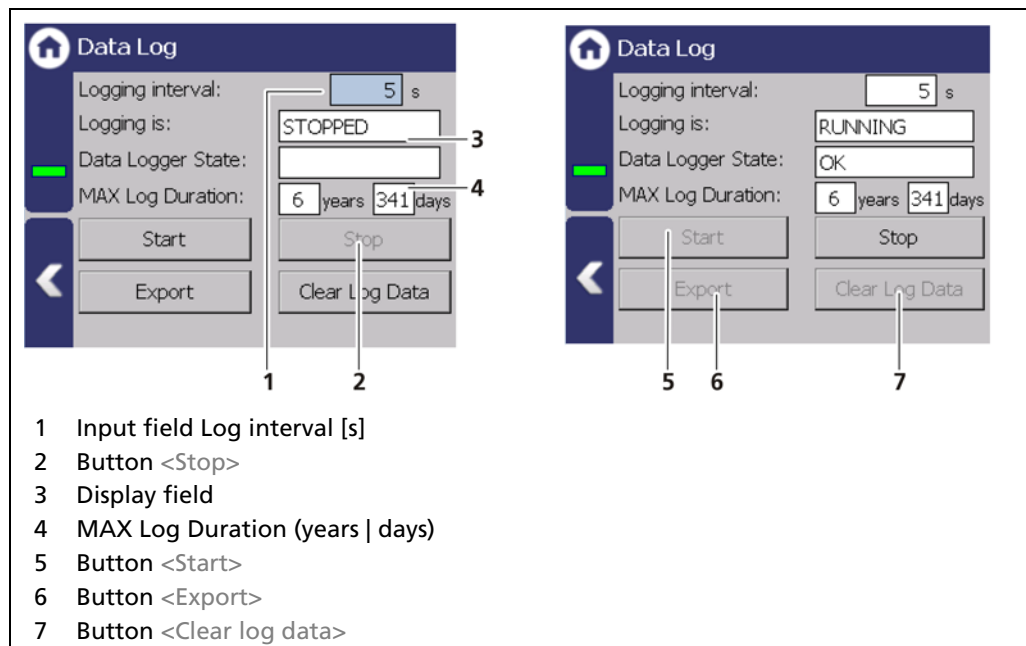

Fig. 125 Data Log
1. Click on the button <Stop> (Fig. 125, item 2) if the data log is running.
2. Click on the input field "Log interval" (Fig. 125, item 7) and enter the time in seconds.
4. Click on the button <Start> (Fig. 125, item 4) to start the data log process.
2. Click on the button <Clear Log Data> (Fig. 125, item 7).
1. Click on the button <Stop> (Fig. 125, item 2) to stop the data log process.
3. Click on the button <Export> (Fig. 125, item 5).